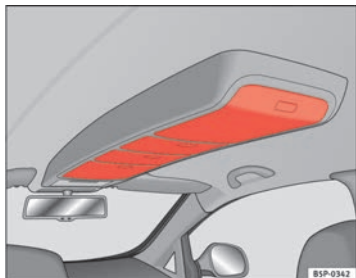

Fig. 105 Roof storage compartments
- Press the button on the cover to open these compartments ⇒ fig. 105. The cover will then open.